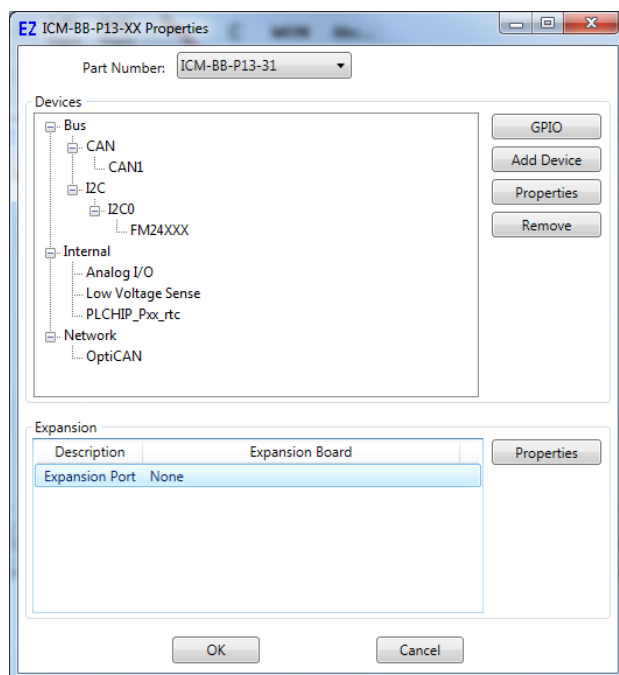

Figure 2-8 - Select I/O Expansion Board
6. Double-click the Expansion Port in the Expansion pane. Refer to Figure 2-8. The *Expansion Port Properties* window will open. Refer to Figure 2-9.